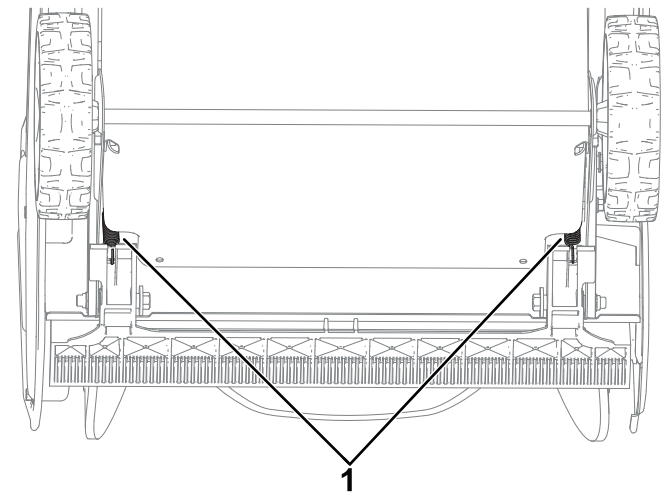

Figure 1
6. Install the 2 springs onto the scraper (Figure 1).